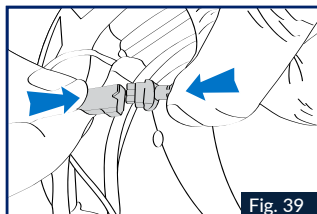

Fig. 39
10. Make the battery connection (black 3-branch connector), and the keypad as shown in Fig. 39